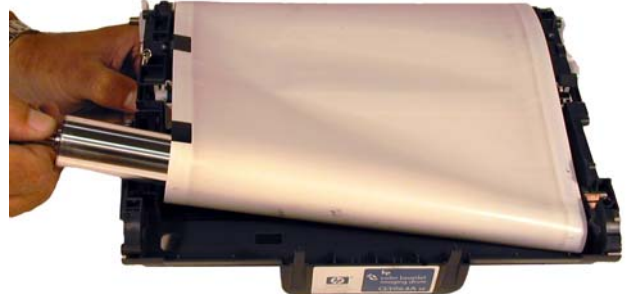

Figure 19
13) Remove the silver roller from the inside of the belt. See **Figure 19**